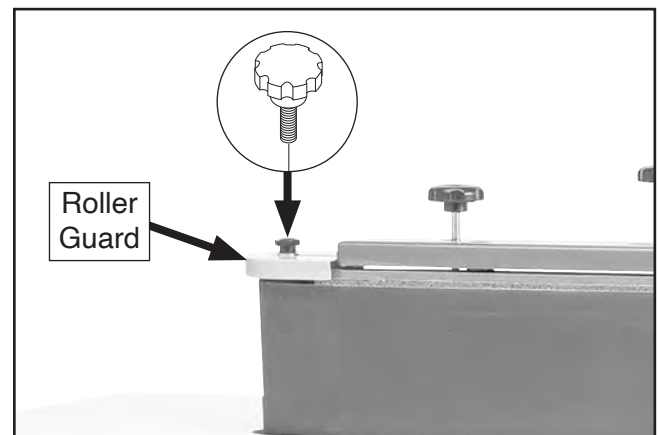

Figure 34. Location of roller guard and knob.
3. Loosen knob shown in **Figure 34** to remove roller guard.